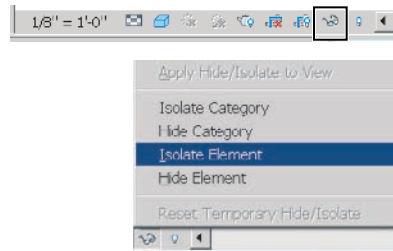

Figure 7.39
2. Select the Loft Tower element previously created, and from the View Control Bar, choose Temporary Hide/Isolate, and then choose Isolate Element (Figure 7.39). This will turn off the display of all other elements in the model and provide a clear view in which to model the voids.